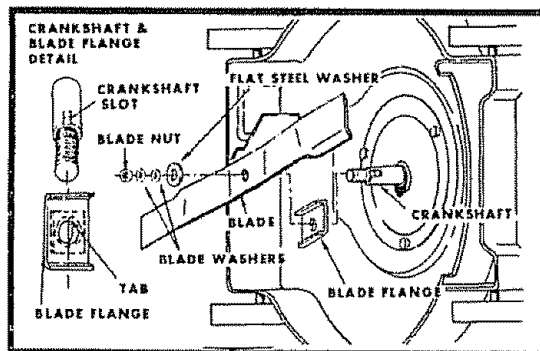

FIG. 9
- Put blade flange on engine crankshaft with tab in slot (See Fig. 9).
- Place flat washer, two (2) formed washers and nut on crankshaft (See Fig. 9).